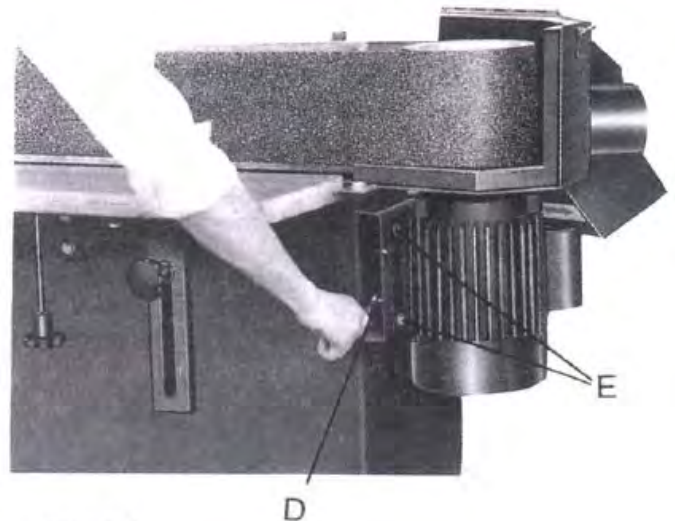

Fig.10,
6. If the abrasive belt left to right is not parallel with the steel platen then the motor is not adjusted properly. To adjust follow the motor mounting screws (E) Fig. 10 and adjusting with the two jack screws (D).